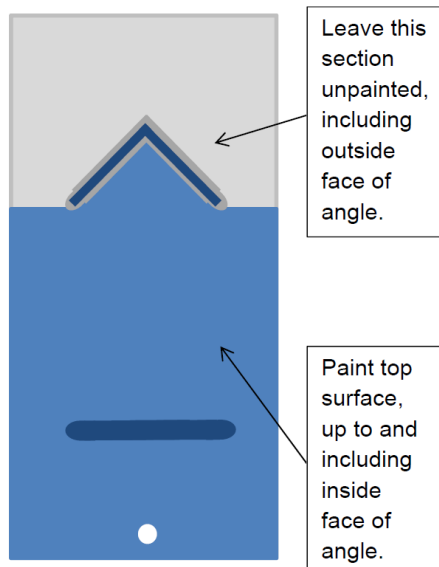

Figure 2—Painted Complex Test Panel
- 4.1 Spray apply epoxy zinc prime coat to approximately 2/3 of the panel, as shown in Figure 2, per the manufacturer's instructions, except apply the paint over-thick to achieve 20–40% drips, runs, and sags to simulate irregular surface condition of field structures.